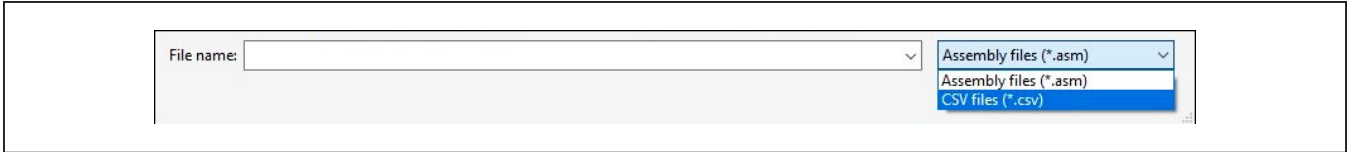

Figure 20. Select the “CSV files” option in the bottom right hand corner of the file viewer window to display the csv files.
- 3) When the file viewer window appears, be sure to change from the default **Assembly files** to **CSV files** in the bottom right corner drop-down menu to display the CSV files within the directory (Figure 20).